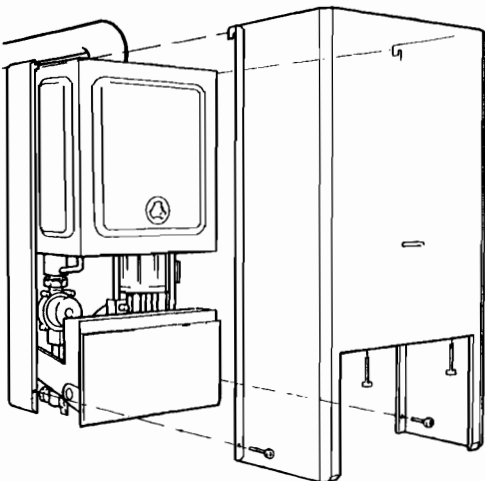

Fig. 26
6.16 Refixing the Front Cover (fig. 26)
- 6.16.1** Offer up the front casing to the back frame in a near vertical attitude and locate the hooks on the casing over the hooks on the frame. Slide the casing downwards to fully engage the hooks and to align the bottom fixing holes. Replace the four case retaining screws. (fig. 26).